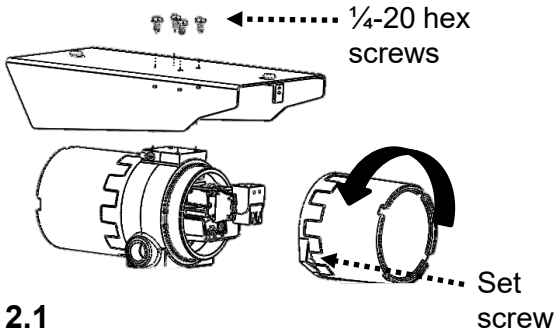

Figure 2.1
2. Loosen set screw and remove 1/4-20 hex screws then lift the sunshield from the camera housing. Tabletop Figure 2.1